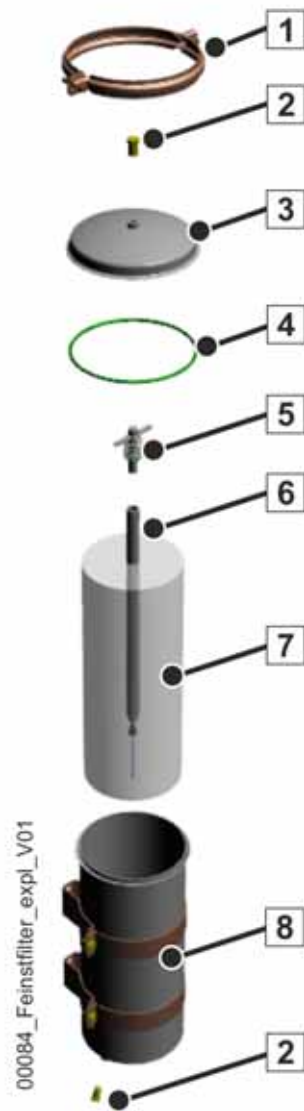

Abb. 309 Design of the ultra-fine filter
Caption (Abb. 309)
- Carefully remove the screw connection on the cover retaining clamp (1) (**Abb. 309**). Only remove the cover (3) if the oil level has gone down as the oil will overflow otherwise.
- Remove the cover retaining clamp (1) and the filter cover (3) (**Abb. 309**).
- Loosen and remove the retaining bolt (5) for the filter element (7). Replacing the retaining bolt seal is part of replacing the filter!
- Pull the filter element (7) off of the drain pipe (6) using the stirrups provided for that purpose.
- Remove the coarse contamination in the filter housing (8) (**Abb. 309**).
- Inspect the cover seal (4) for damage and replace it if necessary.